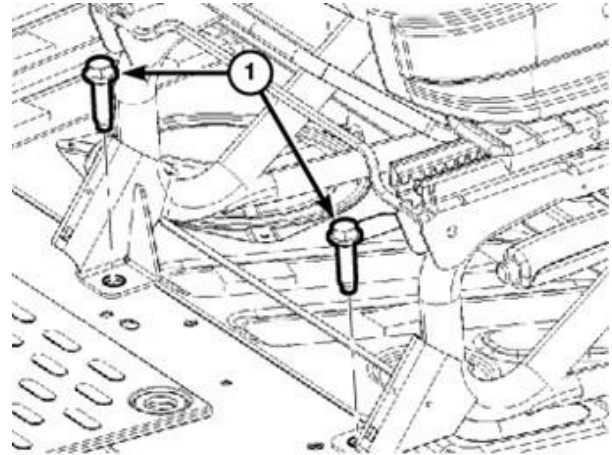

Figure 1 – Seat Riser Bolts
2. **Vehicles equipped with passenger side bench seat:** Remove the front riser bolts (1) from the driver seat then slide the driver seat forward off the rear stud fasteners (Figure 1).
27. **Vehicles equipped with passenger side bench seat:** Install the front bolts (1) and tighten to 24 N·m (18 Ft. Lbs.) (Figure 1).